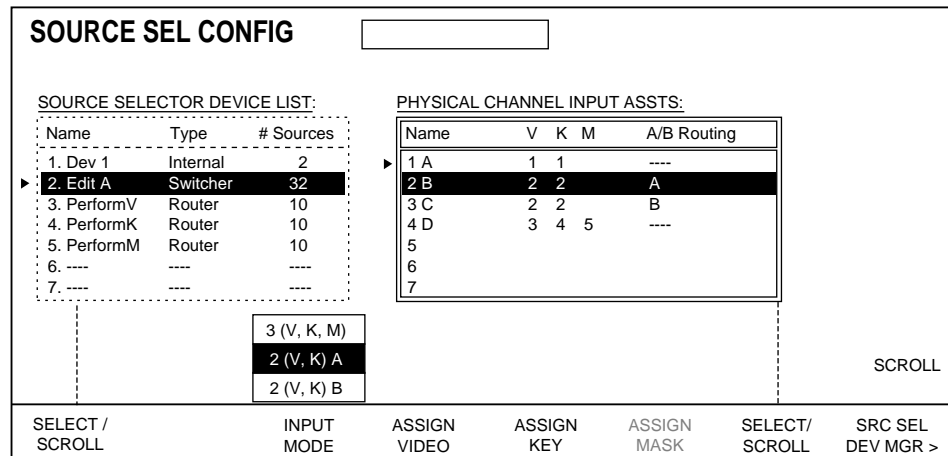

Figure 3-19. Source Selector Configuration Menu, Various Settings Shown
1. Press SRC SEL CONFIG > from the Suite Configuration menu to go to the Source Selector Configuration menu (Figure 3-19). This menu can also be reached from the Source Selector Device menu by pressing SRC SEL CONFIG > located on that menu.